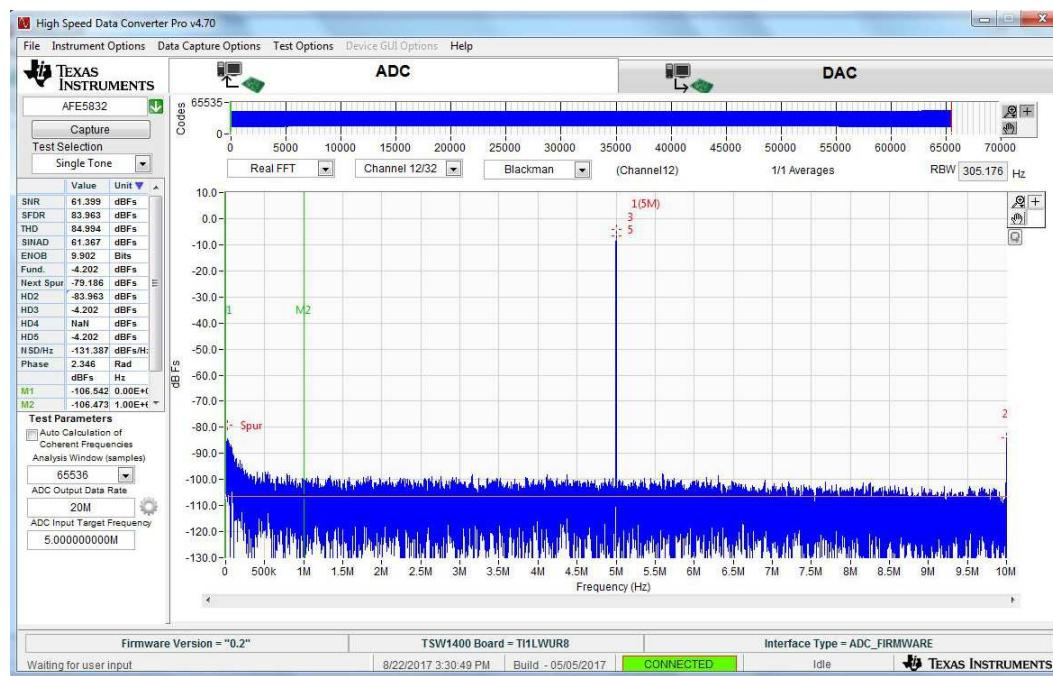

Figure 14. Analog Input Capture for LVDS
8. Return to HSDC Pro, and press the *Capture* button in the upper left-hand corner (as shown in Figure 14). A capture similar to that shown in Figure 14 appears for a successful capture. The quality of the output spectrum depends heavily on the coherency and the purity of the input signal and clock.